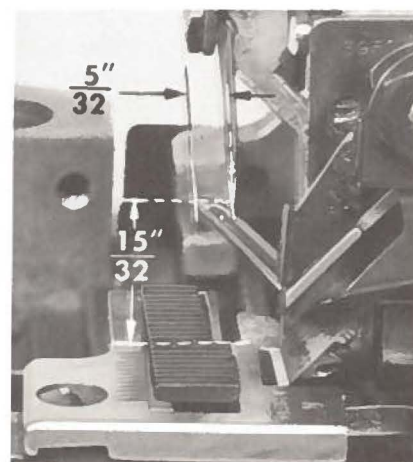

Fig. 9
As upper looper moves from right to left the looper should pass behind the lower spreader, with approximately .002 inch clearance between spreader and upper looper (Fig. 8). When the looper is at its extreme left end of travel, its point should extend $\frac{5}{32}$ inch to the left of the centerline of the needle and should be $\frac{15}{32}$ inch above the top of the throat plate (Fig. 9). If resetting is necessary, reposition the upper looper holder (A, Fig. 8).
If it becomes necessary to move looper thread pull-off (AF), be sure to take up all end play in needle drive shaft before tightening. If looper is located so that it is higher over throat plate than recommended in (Fig. 9), the purl will tend to form near top edge. If looper is too low, the purl will form nearer bottom edge.